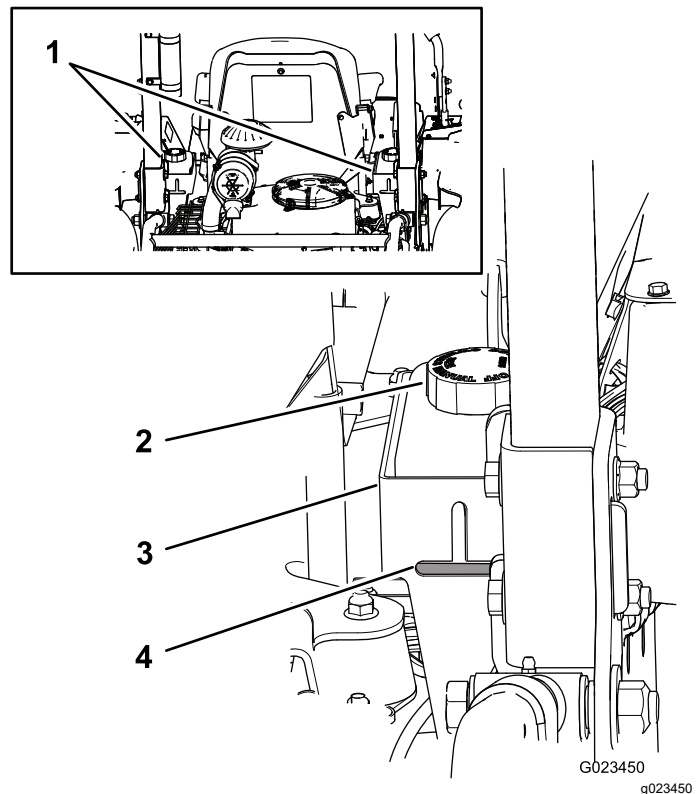

Figure 68
The reservoirs of the machine are filled at the factory with high-quality hydraulic fluid. The best time to check the hydraulic fluid is when the fluid is cold. The machine should be in the transport configuration. If the fluid level is below the top of the horizontal part of the cut-out sight window on the rear of the hydraulic reservoirs (Figure 68), add fluid to bring the fluid to the acceptable level. **Do not overfill the reservoirs.** If the fluid level is at the top of the horizontal part of the sight window, no fluid addition is required. The recommended replacement fluid is:
Note: The fluid level should be at the bottom of each of the openings, as shown in Figure 68.
- A. Clean the area around the fluid-reservoir caps to prevent debris from entering the system (Figure 68).